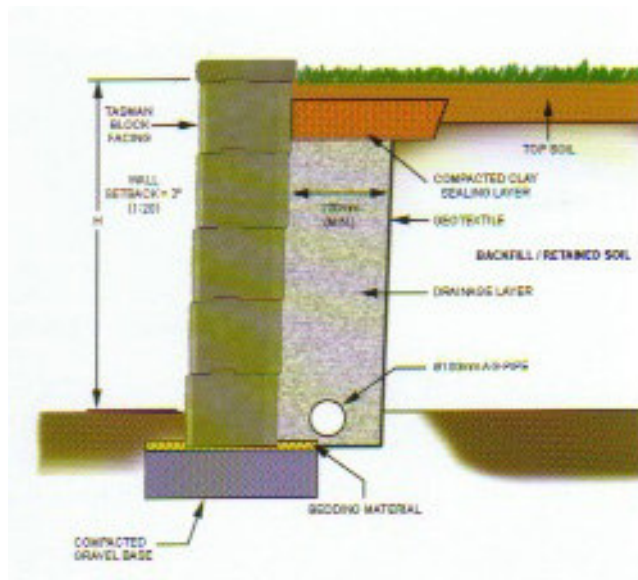

Figure 1
- If soil is used on top of a wall, a layer of geotextile must be used to stop any soil filtering down through the drainage layer (see figure 1).
(See Figure 1)